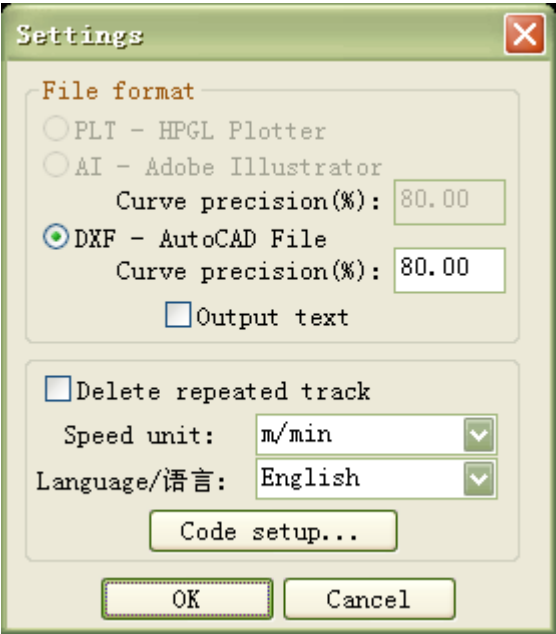

Figure 2-5
(2). Click on the Setup button or the Setup menu item, the dialog box of Setup will pop up as shown in Figure 2-5: